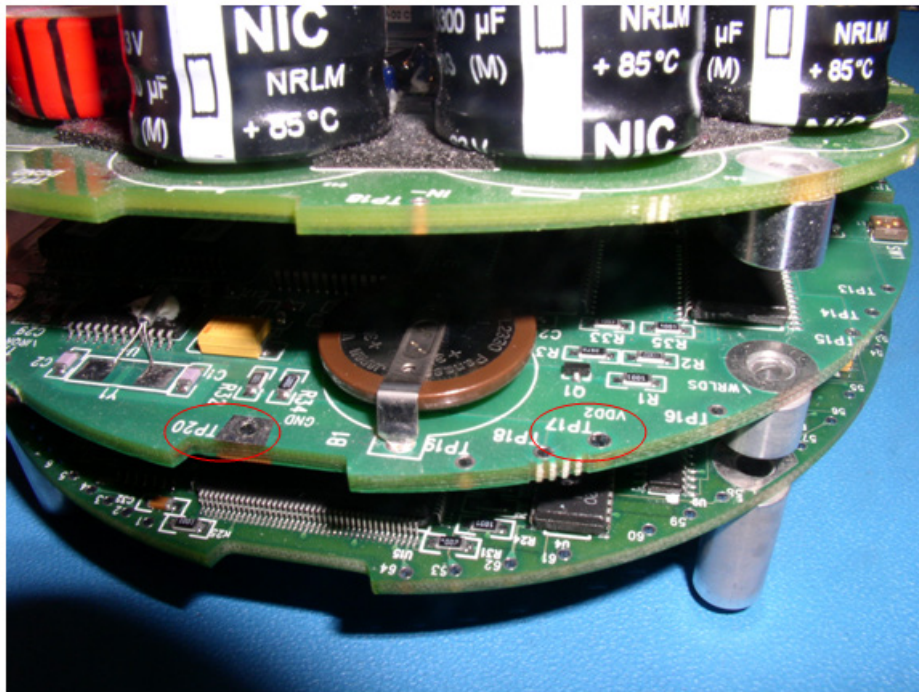

Figure 71. Lithium Battery Test Points on the CPU Board
2. Measure the voltage on the CPU board between TP17 (BAT+) and TP20 (GND). While power is not applied to the ADCP, TP17 should read approximately 3 VDC and the voltage should remain stable (see Figure 71).